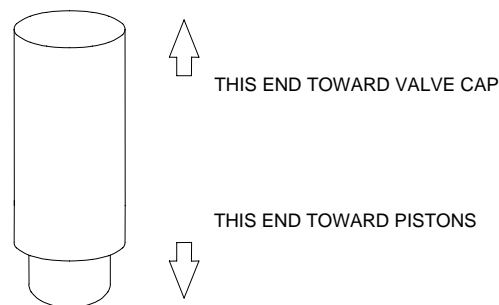

Figure 4-42: Model 11 Plunger Orientation
3.	<p>Inspect the Teflon sealing disc (4), Dacron cushion disc (5) and silicon rubber "O" ring (6) for dirt or breaks.</p> <p>If damage is evident, discard damaged part(s) and replace with new component(s).</p>
4.	<p>If Teflon sealing disc (4), Dacron cushion disc (5) and "O" ring (6) are brittle or dirty, but not ruptured, or they are ruptured but clean, visually inspect the rest of the valve. If it is clean and in good order, install new Teflon sealing disc (4), Dacron cushion disc (5) and "O" ring (6) and reassemble the cap. Otherwise, either continue with valve disassembly or replace the valve.</p>
5.	<p>Examine each of the six plungers (7) for evidence of damage or contamination. If damage is evident, discard defective plunger(s) and replace with new ones. Refer to Figure 4-42.</p>
6.	<p>To reassemble the valve cap (3), refer to section Valve Cap Assembly. If the valve actuating piston assembly is contaminated or malfunctioning, refer to Valve Body disassembly.</p>
10.	Using a syringe with Krytox 143 AY lubricating oil, place a drop of oil on sidewall of each valve body (8) plunger hole.
11.	Reinstall the six plungers (7) into their valve body positions. Using tweezers, move each plunger up and down to thoroughly lubricate them. Plungers must not protrude above valve body (8) top surface. Refer to Figure 4-42 for plunger orientation.
12.	Using clean lint free cloths wetted with acetone, remove excess lubricating oil from top of valve body (8).